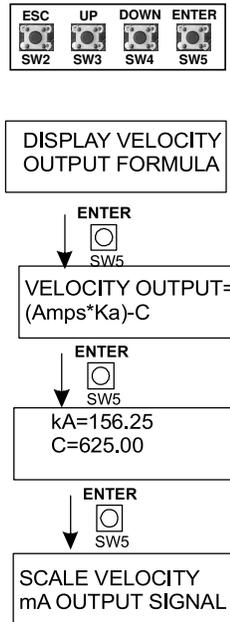

Figure 19:
- Figure 19 DISPLAY VELOCITY OUTPUT FORMULA